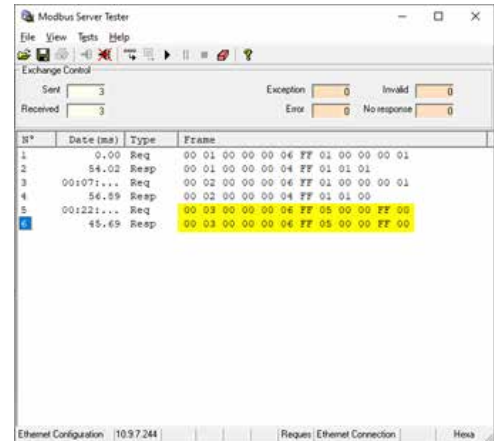
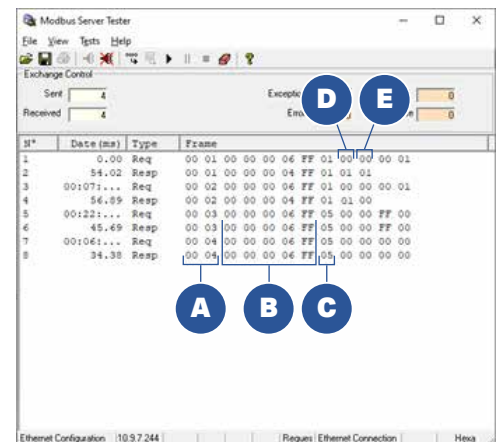

Figure 41.1.
Figure 41.2.
- The request you just entered will be displayed in the main window of the Modbus Server Tester app, along with a response. Both the request and response should match, as highlighted in Figure 41.1. The 0xFF signifies that a "ON" true was sent. Notice that the CDDP-A's Home screen will indicate that the Pulse 1 Power Comparator is enabled, as shown in Figure 41.2.
Each time you send a request the first two columns of data in the Frame section will increment (A), as highlighted in Figure 41.2.
The third through seventh columns in the Frame section is part of the header that is sent/received (B) as shown in Figure 41.2.
The column after the columns with "FF" data, or the eight column, is the Function code (C) as shown in Figure 41.2.
The next column (D) is the byte count, as shown in Figure 41.2. The next column (E) shows the 2 bytes received when reading the coil.